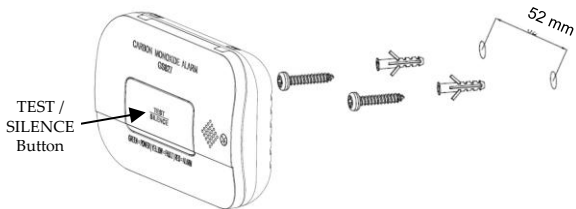

Figure 2 – Mounting
3. Test the unit by pressing the TEST/SILENCE button (see Figure 2). Ensure the unit sound is of the alarm pattern.